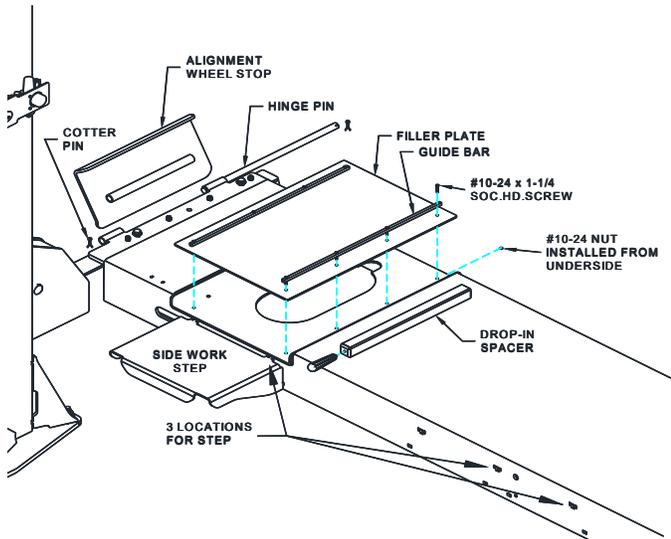

Fig 27 – Alignment Wheel Stop & Turn Plate Installation
- 64) If lift is an alignment lift, use the hinge pin and cotter pins to install the wheel stop. See **Fig 27**
- 79) Referring to **Fig 27**, locate the filler plate, guide bars, and #10-24 hardware in the accessory box and attach them to the turnplate pockets as shown.
- 80) Use the hinge pin and cotter pins to install the alignment wheel stop. See **Fig 27**.
- 81) Attach a Work Step to each runway. (The Work Step may be located in three different positions on each runway.) See **Fig 27**.